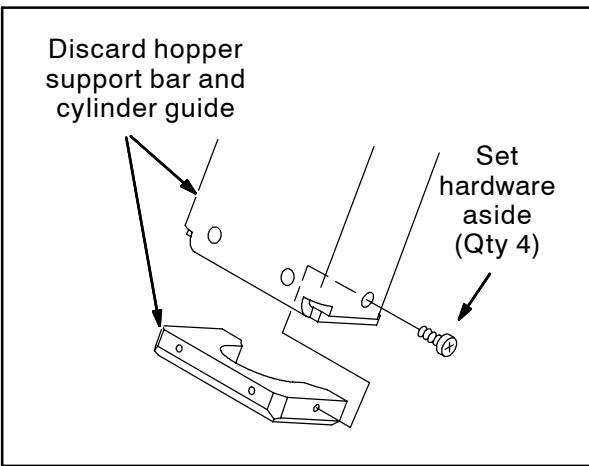
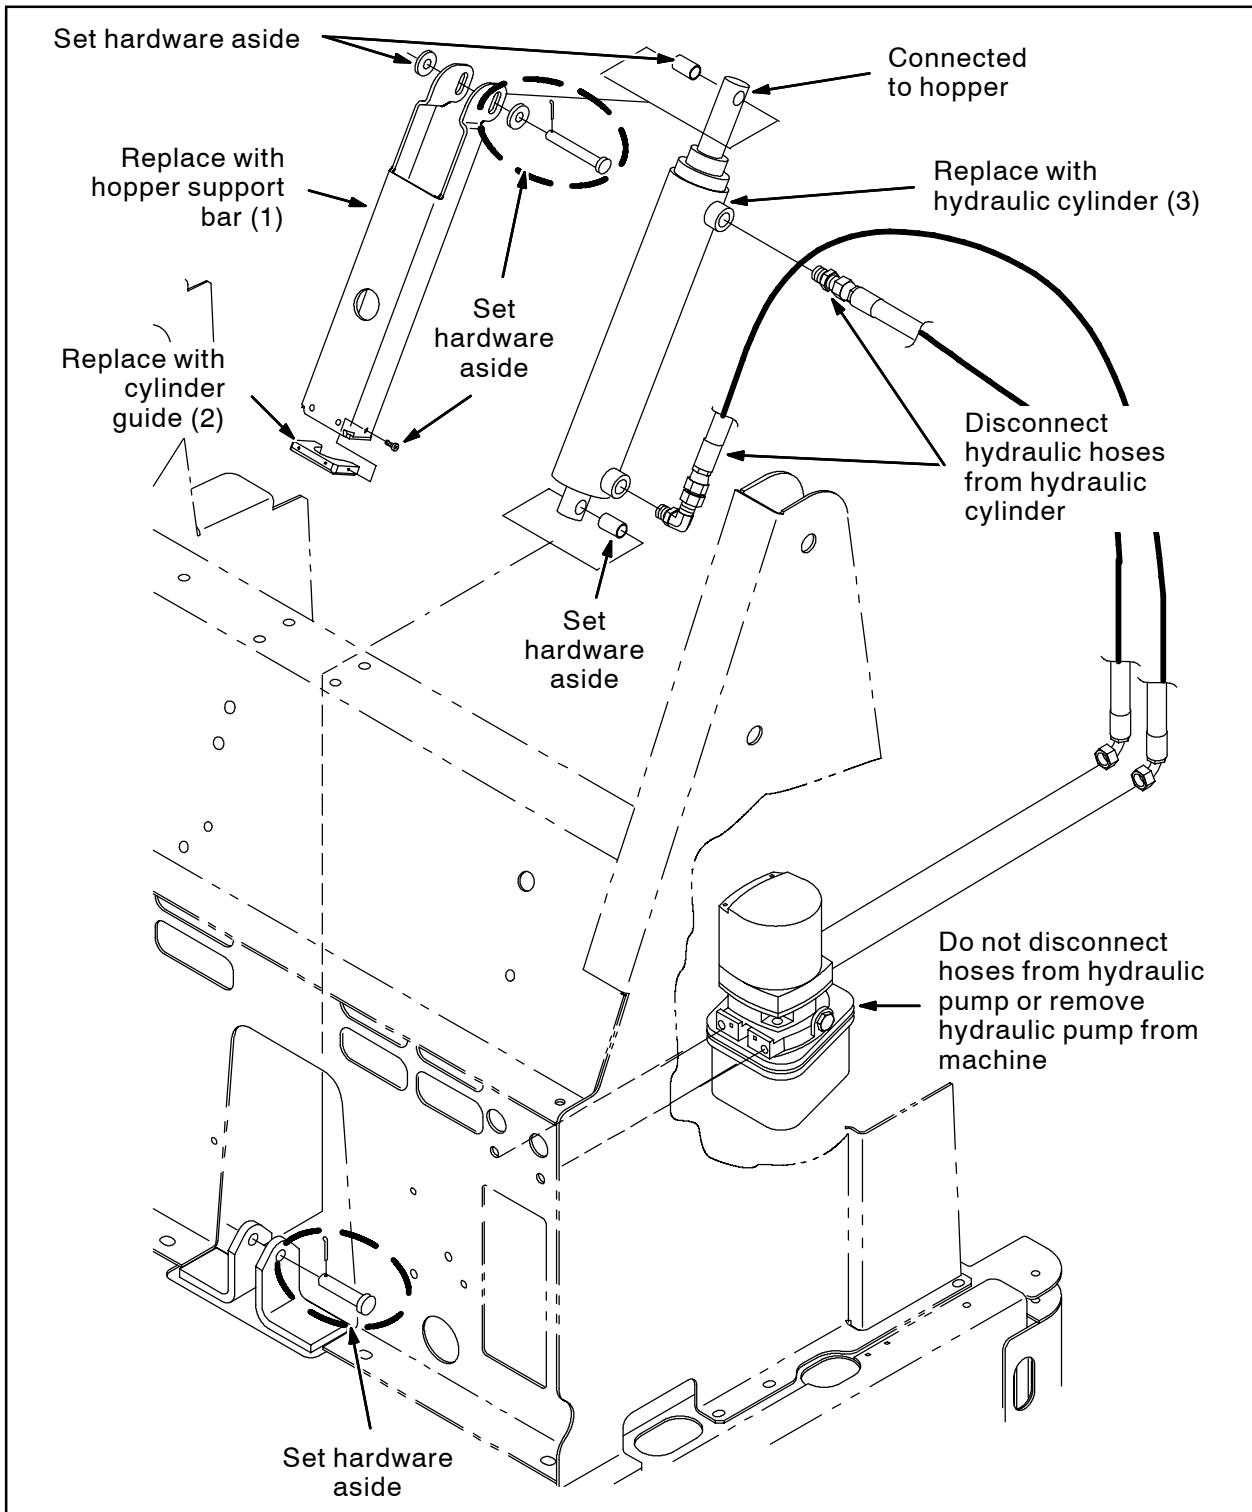

FIG. 1
FIG. 2
1. Disconnect the hydraulic hoses and fittings from the hopper lift cylinder. Refer to Fig. 2.
2. Remove the hopper lift cylinder and hopper support bar from the machine. Set all hardware aside. Refer to Fig. 2.
3. Remove the cylinder guide from the hopper support bar. Set the hardware aside. Discard the cylinder guide and hopper support bar. Refer to Fig. 1 and Fig. 2.
4. Use the hardware saved in the previous step to install the new cylinder guide (2) onto the new hopper support bar (1). Refer to Fig. 2.
5. Use the hardware saved in Step 2 to install the hopper support bar (1) and new hydraulic cylinder (3) onto the machine. Refer to Fig. 2.
6. Connect the hydraulic hoses to the hydraulic cylinder (1). Refer to Fig. 2.